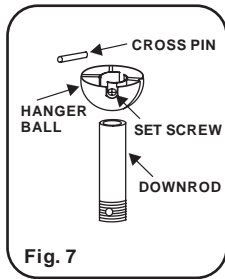

Fig. 7
Step 3. Remove hanger ball from downrod assembly by loosening set screw, removing the cross pin, and sliding ball off rod. (Fig.7)